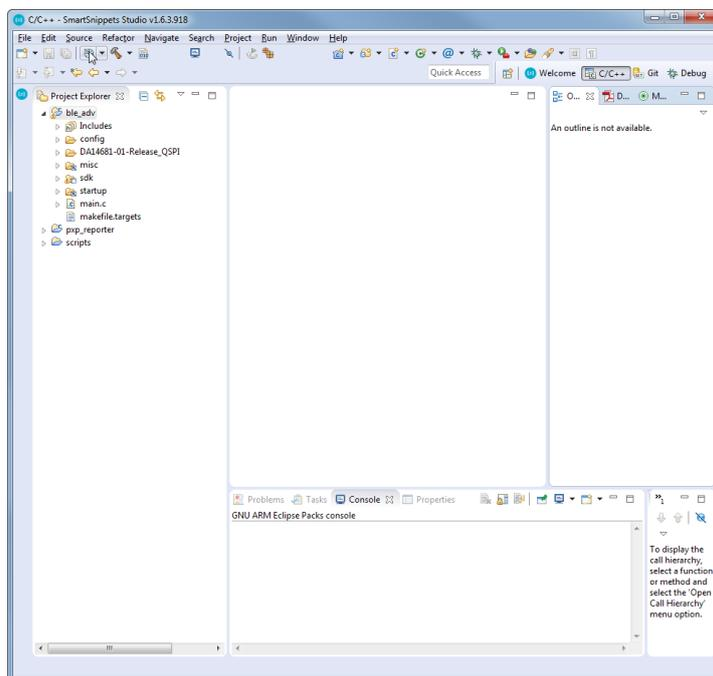

Figure 1: Configuration manager Selection
| Figure 1: Configuration manager Selection..... | 4 |
1. Open the configuration manager (Figure 1) and select a new configuration (Figure 2).